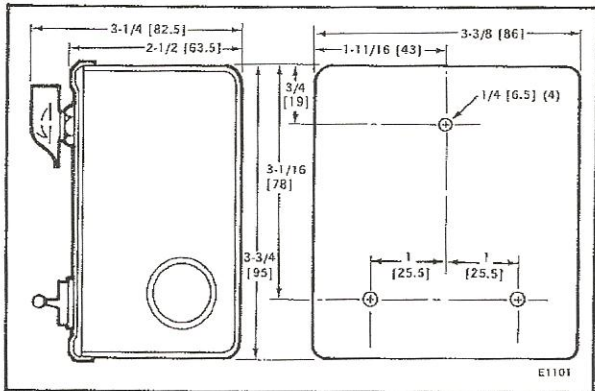

FIG. 1—MOUNTING DIMENSIONS OF S443A IN in. [mm IN BRACKETS].
DIMENSIONS: See Figs. 1 and 2.
2. Remove two screws holding cover onto case and mount case on the wall using the three mounting screws provided. Refer to Fig. 1 for location of mounting holes.